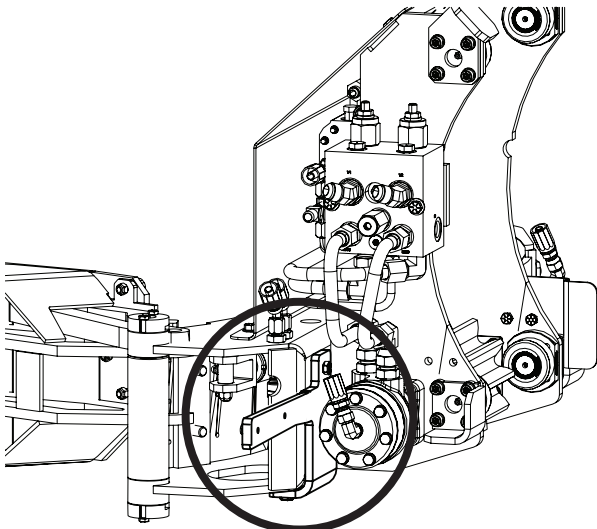

Figure 9
15. Install the new hydraulic tube clamp bracket (P/N 1561880) (the new part is straight; whereas the old part had a manufactured offset bend) using the retained hardware with Loctite (Figure 9). Tighten until tight.